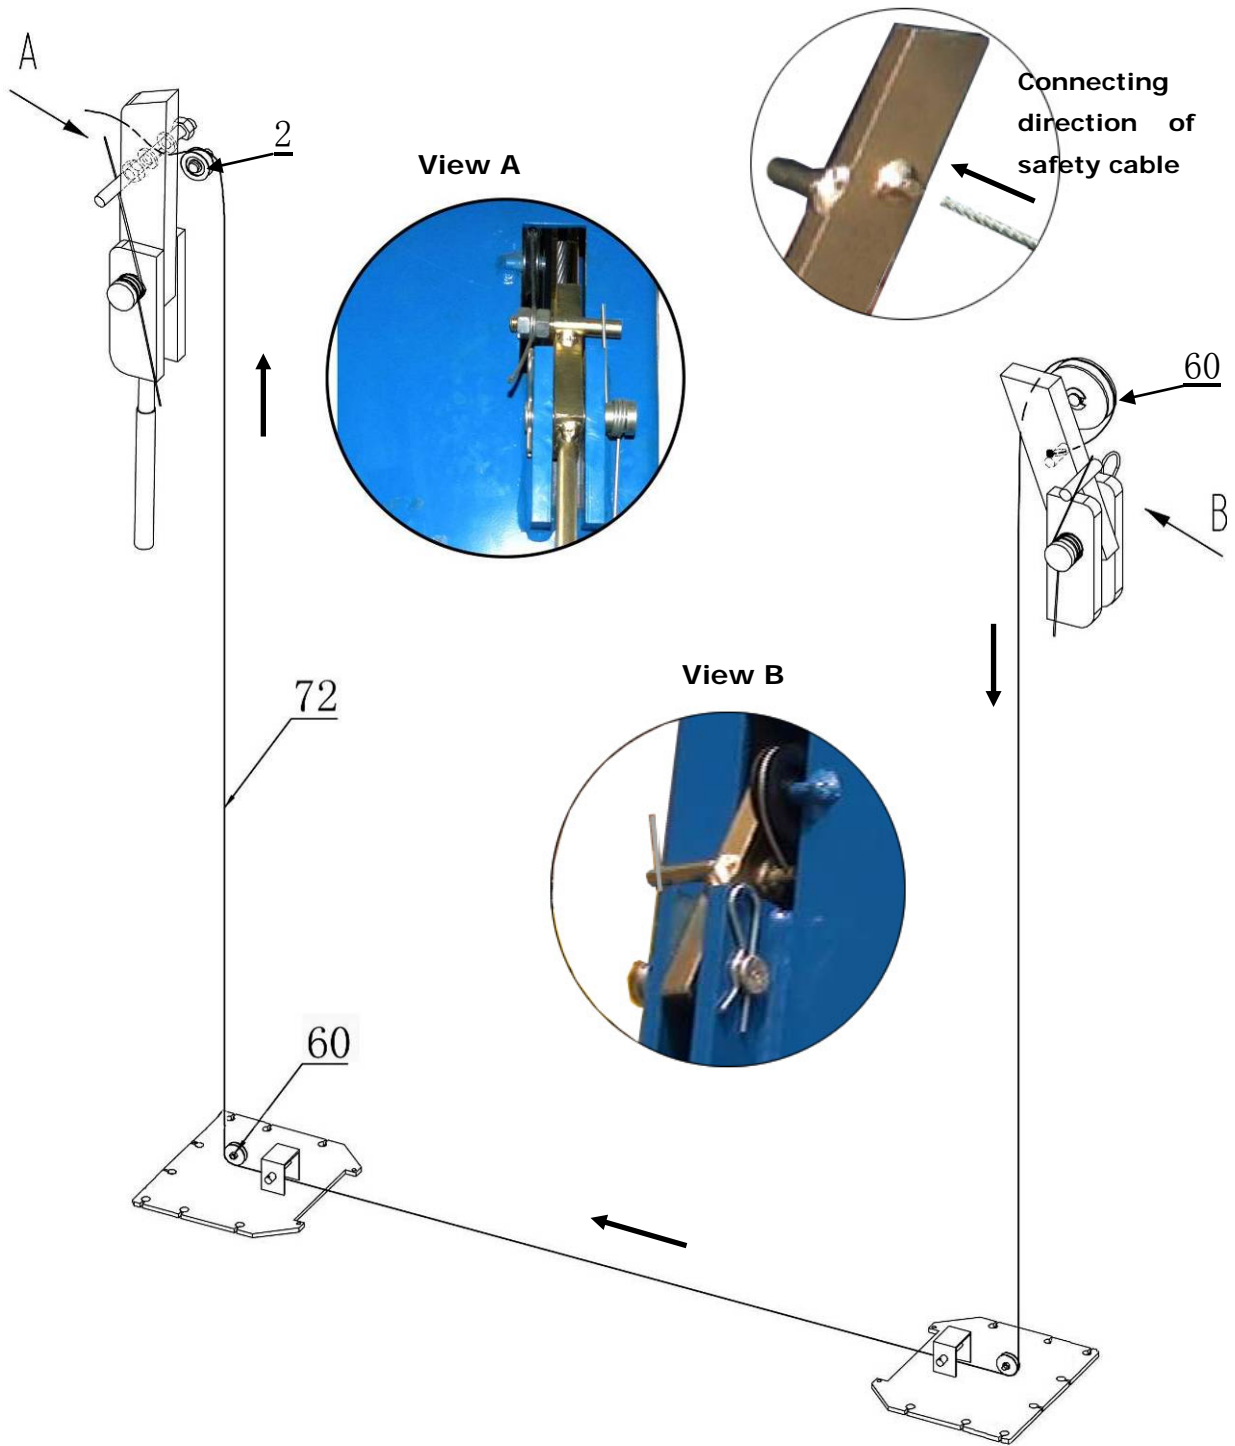

Fig. 20
K. Install safety device and safety cable (See Fig. 20)